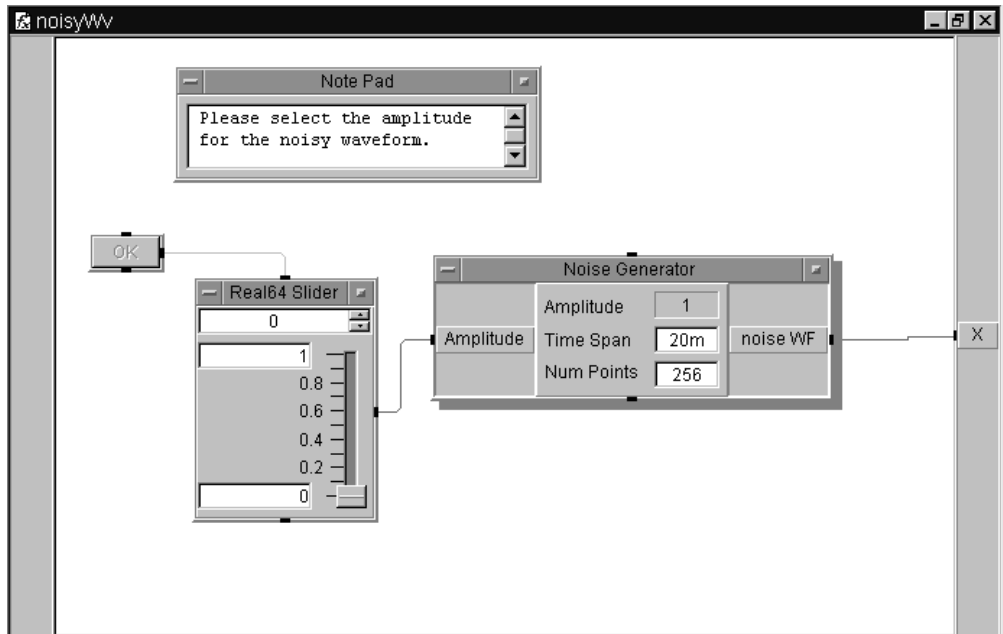

Figure 213 The noisyWv UserFunction (Detail)
- 1 Create the UserFunction called noisyWv, as shown in Figure 213 in the Detail view.